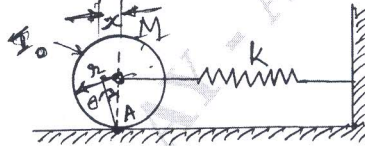

Fig.Q7(b)
- b. Find the natural frequency of the following system shown in Fig.Q7(b). (10 Marks)